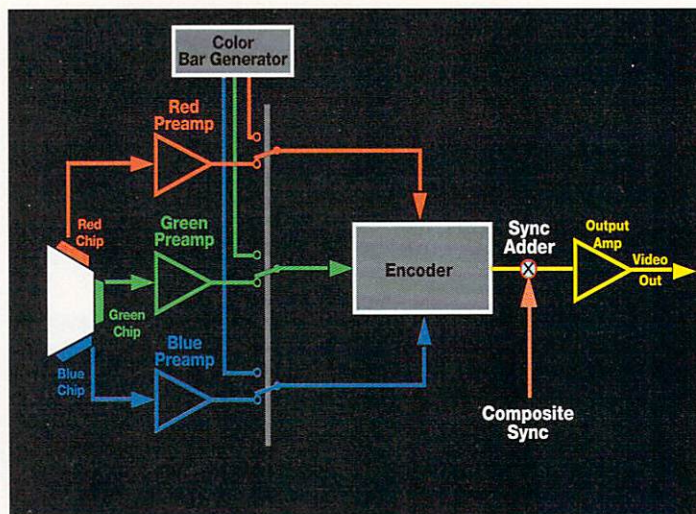

Figure 5
Interconnection among equipment that supports component operation requires three cables—one each for luminance (Y), red-minus-luminance (R-Y) and blue-minus-luminance (B-Y). Figure 5 shows a block diagram of a camera with component video output signals. These three signals are simply three different combinations of red, green and blue with no modulation applied to a subcarrier and no burst present.